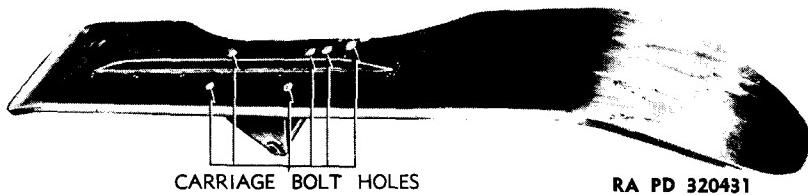
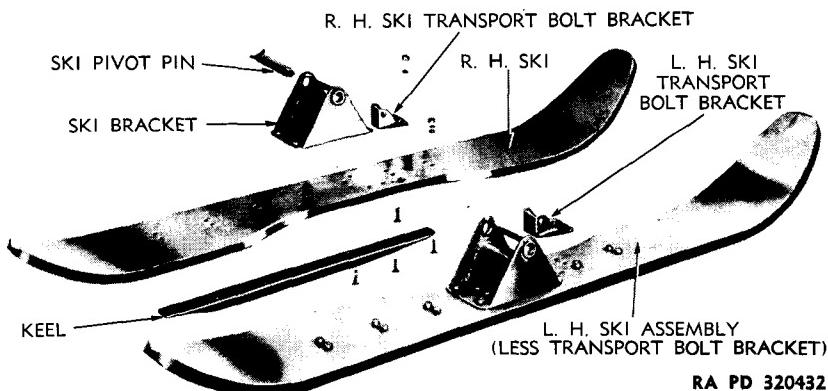

Figure 20 — Location of Carriage Bolt Holes
Figure 21 — Ski Assembly Disassembled
- a. Install Ski Brackets.** Install six carriage bolts up through holes in ski (fig. 20). Turn ski on flat side, and install ski brackets with nuts and lock washers. See figure 21 for relation of parts on right and left skis, so that brackets will be installed correctly with regard to right and left ski transport brackets. The stop bar on ski brackets goes toward front of ski.